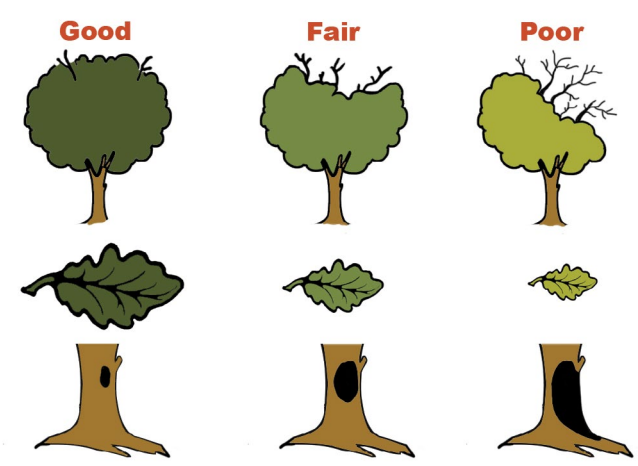

Figure 5. Good, fair, and poor tree condition.
- In good structural and health condition (no dieback, rot, or decay fungi) (Figure 5).
- Show dieback, rot, fungal growth, or trunk damage (Figure 5).